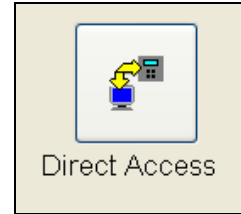

Figure 7.0.3
3. From the List of icons to the right of the “**Speed Communications**” screen select the **Direct Access** Icon (Figure 7.0.3).